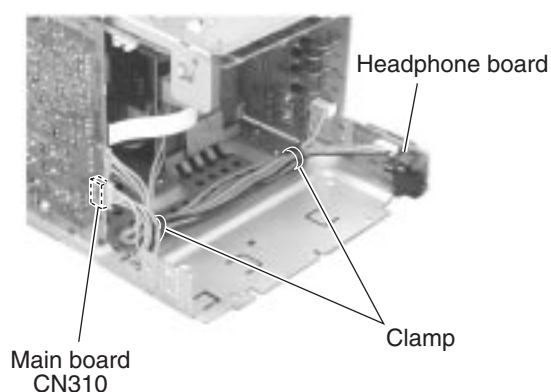

Fig.22
■ Removing the headphone board (See Fig.22,23)